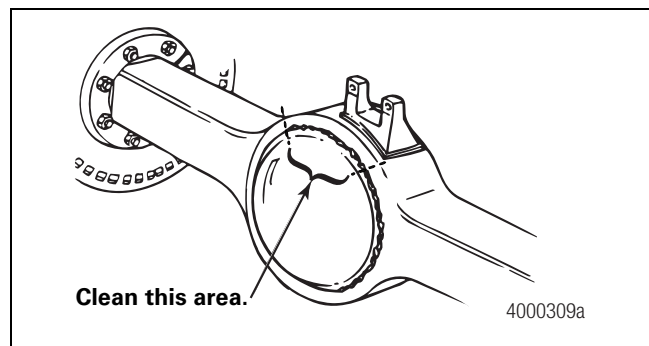

Figure 4.8
4. For housing-to-cover welds, clean the outside housing-to-cover weld area 2-3-inches (50.8-76.2 mm) past each end or side of the crack. Clean the inside area where the cover mates with the housing. Clean the area completely around the cover. Use a wire brush and a cleaning solvent that will remove dirt and grease from these areas. Figure 4.8.